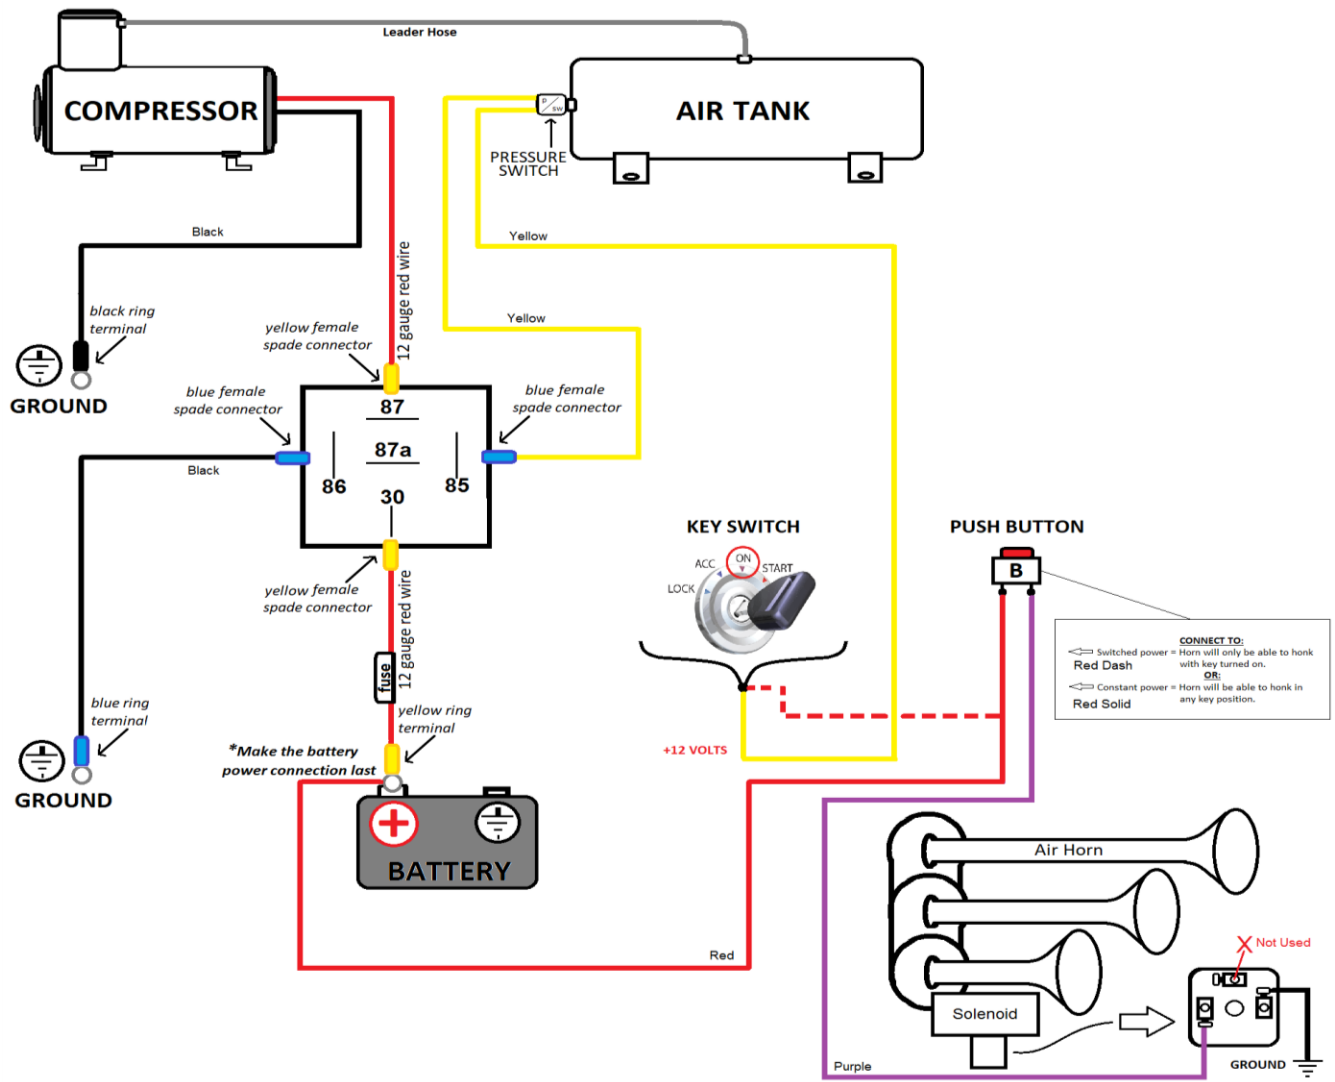

Figure 1 - Suggested Ignition Relay Diagram for Air Horn System
8.4.2. Connect routed wiring to relay(s) and fuse(s), per wiring diagram in Figure 1 shown above